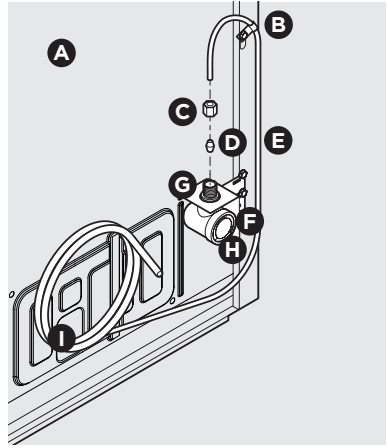
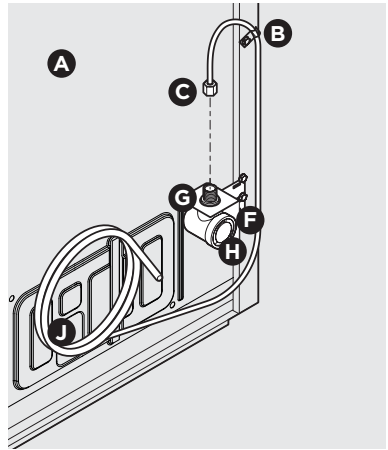

Figure 1
Figure 2
4. If you use **copper tubing** - Slide the brass compression nut, and then the ferrule (sleeve) onto the water supply line. Push the water supply line into the water valve inlet as far as it will go ( $\frac{1}{4}$ "/6.4 mm). Slide the ferrule (sleeve) into the valve inlet and finger tighten the compression nut onto the valve. Tighten another half turn with a wrench; DO NOT overtighten. See Figure 1.
If you use **braided flexible stainless steel tubing** - The nut is already assembled on the tubing. Slide the nut onto the valve inlet and finger tighten the nut onto valve. Tighten another half turn with a wrench; DO NOT overtighten. See Figure 2.
B	Steel Clamp (Fig. 1: $\frac{1}{4}$ "; Fig. 2: $\frac{1}{2}$ " )